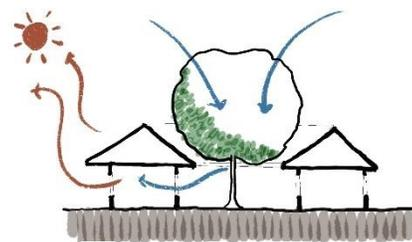

Fig. 19: Building with a courtyard helps cooling (Source: Author)
d) **Buildings with courtyards** can store cold air or cool the air before entering the interior spaces (Fig. 19)